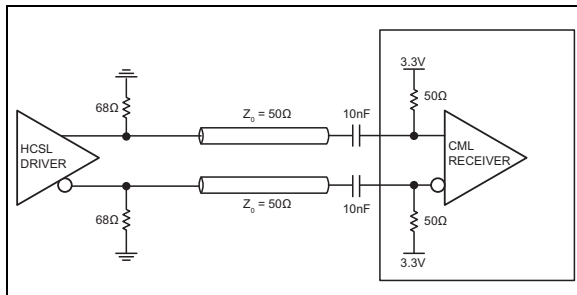

FIGURE 9: HCSL-to-CML Translation.
In Figure 9, each of HCSL output pins switches between 0 and 14 mA. When one output pin is low (0), the other is high (driving 14 mA). The equivalent loading for HCSL driver is 68Ω parallel to 50Ω , which equates 28.81Ω . The swing level on the CML input is $14\text{ mA} \times 28.81\Omega = 403\text{ mV}$. A 10 nF AC-coupled capacitor should be placed in front of the CML receiver to block DC level coming from the HCSL driver. Additionally, self-biasing inside the CML receiver input must be confirmed. If the self-biasing at the input of CML is not present, a 50Ω termination resistor to V_{CC} must be placed on the PCB for CML biasing and transmission line termination.